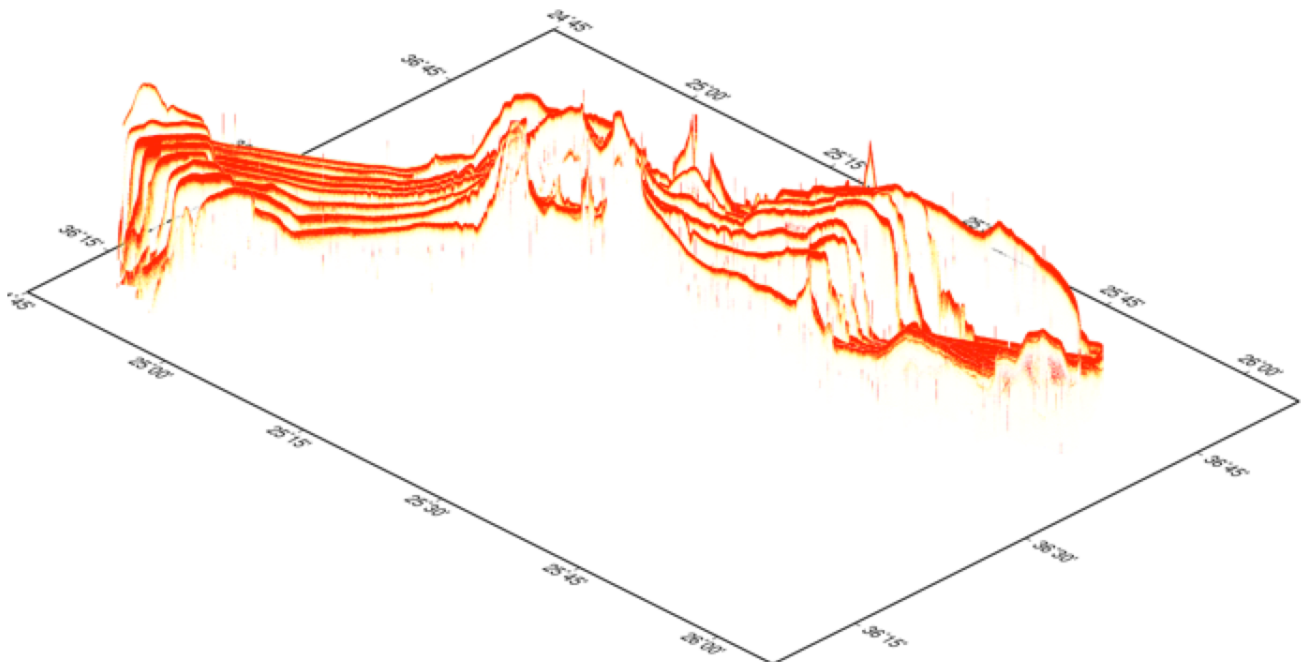

Figure 2: Plot of 12 .su files of Knudsen data
- Background Magnetic Field Removal:** We estimated the background magnetic field during the cruise using the International Geomagnetic Reference Field 2012 (IGRF 2012) model and a predictive model of the secular variation for adjusted dates between 2015 and 2020. We created a 10m grid of background magnetic variation using the midway cruise date (12/2/15, 2015.91507) and subtracted it from the raw data (Attachment 12). Values in the grid ranged [45310, 45734] nT (fig. 2). Across the cruise dates (11/22/15 – 12/15/15), the magnetic field at the grid boundaries (latitude: [24.7353, 26.0488], longitude: [24.7353, 26.7353]) varied <3 nT.
Figure 2. Ship magnetic field correction. Black dots with red lines are raw data with background field removed. White diamonds are mean field strength taken at 2° intervals with standard deviation above and below the mean given by purple lines. Green line is the fit to the data using equation (2).